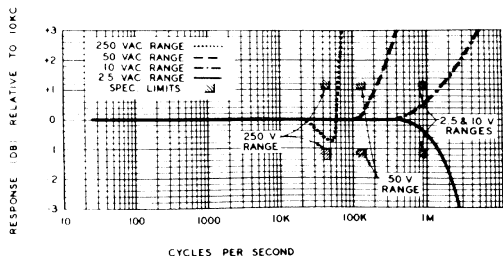

Figure 1-2. Typical Frequency Response Curve
* See typical Response Curves, Figure 1-2.